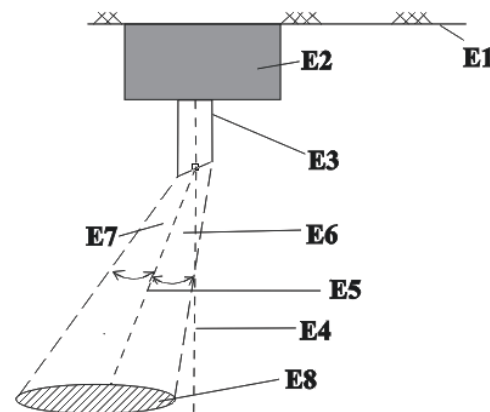

Figure 8: Collection cone when using the fibre rod with an oblique surface
- The white-painted optical fibre rod with an oblique light-sensitive surface and the collection cone shown in figure 8 should then be used only if the sensor cannot be mounted directly above, but can only be mounted offset to the side of the surface whose brightness it is to measure. If the optical fibre rod with the oblique light-sensitive surface is used, the controller is to be calibrated after installation.